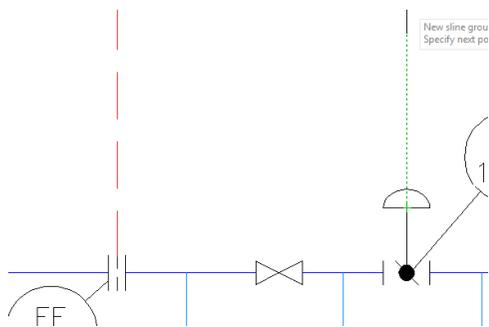

Figure 2-66 Snapping to the midpoint of the control valve
7. Move the cursor toward right and click when the cursor snaps to the mid point of the control valve, as shown in Figure 2-66.